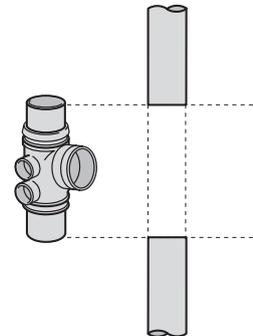

Fig.5a Cut out existing pipe
Step 1 – Cut out section of existing pipe of sufficient length to allow insertion of new assembly plus 12mm, to allow for a 6mm expansion gap at both joints (Fig.5a)